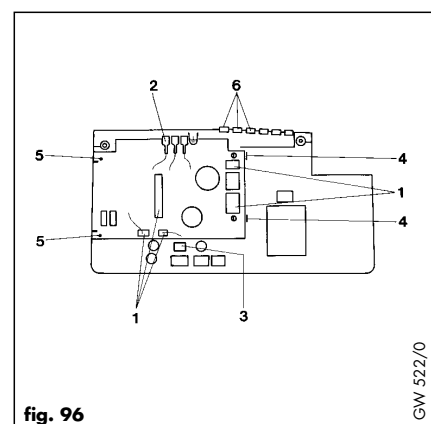

fig. 96
### 7.22.3 Replacement of mother board (fig. 96)
- Lift all cable grommets (6, fig. 96) out of grommet channels.